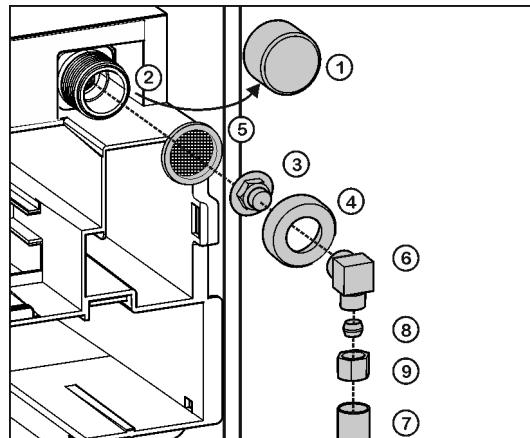

Fig. 10
- Remove the cap Fig. 10 (1) from the solenoid valve Fig. 10 (2).
- Insert the coupler Fig. 10 (3) in the union nut Fig. 10 (4).
- Insert the water filter Fig. 10 (5) with the recess pointing down towards the coupler Fig. 10 (3).
- Lock the union nut Fig. 10 (4) onto the solenoid valve Fig. 10 (2) and tighten.
- To turn the water connection 90°, tighten the elbow connector Fig. 10 (6) if necessary.
- Connect the water supply Fig. 10 (7) (e.g. copper) with the aid of the clamp ring Fig. 10 (8) and nut Fig. 10 (9) to the coupler Fig. 10 (3) or elbow connector Fig. 10 (6).